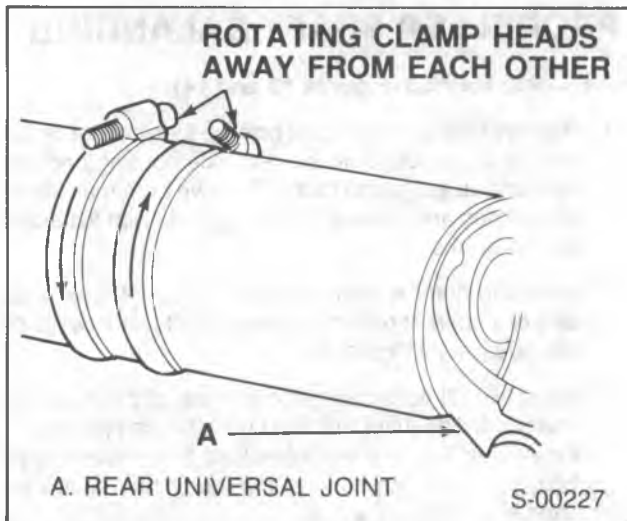

Figure 14—Rotating Hose Clamps
- Position clamps at point of least imbalance. Rotate the clamp heads away from each other 45 degrees (one on each side of the position), (figure 14). Run the vehicle and note if imbalance has improved.